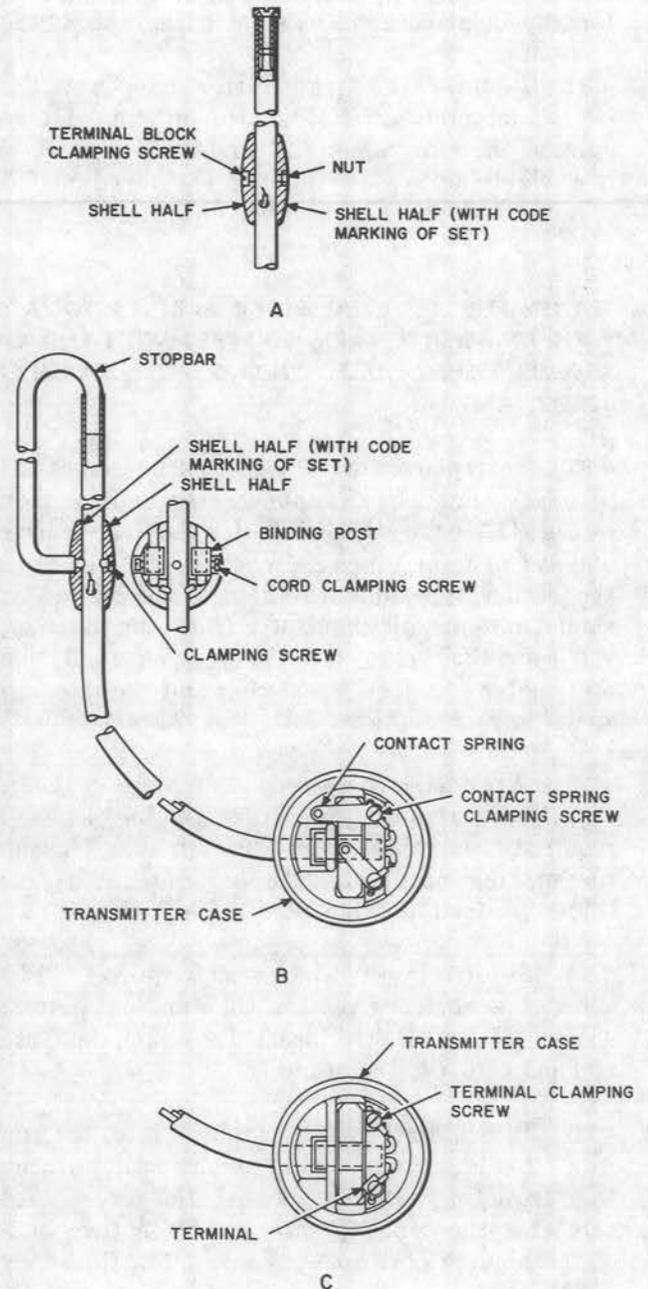

Fig. 11—55A and 55B Transmitter Arm Assembly
**4.23 General:** If it is necessary to replace a transmitter case, replace the transmitter arm assembly also. See Fig. 11.